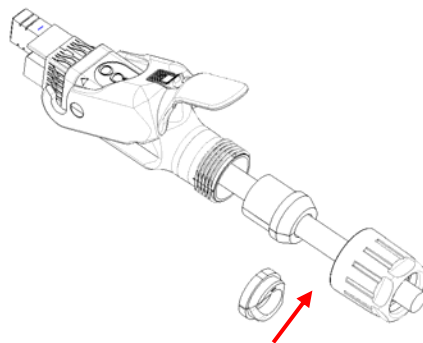

Figure 39
11. Place the tightening cone onto the split rubber gland .(Fig 39 & Fig 40)